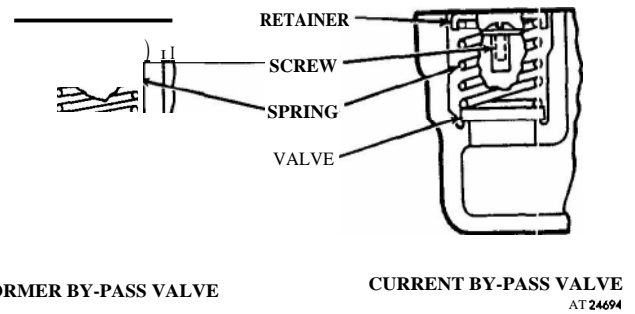

Figure 3. ~~Former~~ and current by-pass valve secured by retainer and screw in the filter, base or junction housing.
3. Reassemble the **by-pass** valve (fig. 3). Place a new gasket on the oil cooler adaptor. The small protrusion on the oil filter base gasket must mate
Remove the snap ring or thin nut on the full-flow filter center stud, slide the stud out of the shell and discard the stud gasket. Then examine the retainer seal (fig. 3) for hardening or cracking. If necessary, replace the seal.